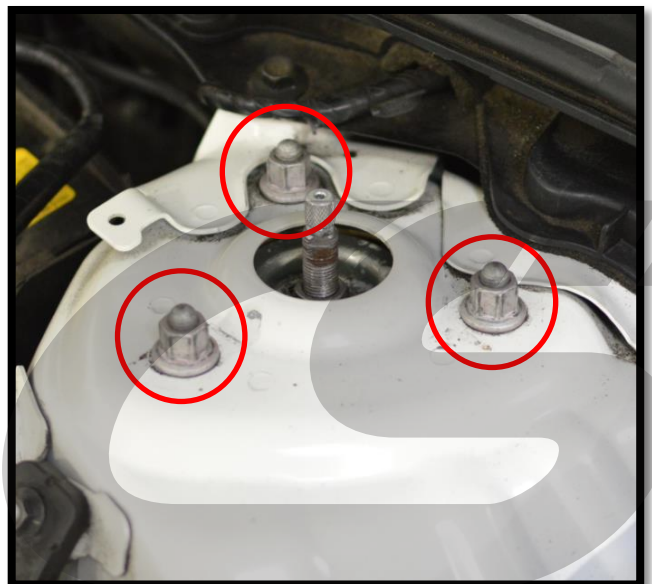

Figure 1d
- l) Use a 14mm wrench or socket to loosen the three strut top nuts **circled in red** in **Figure 1d**.